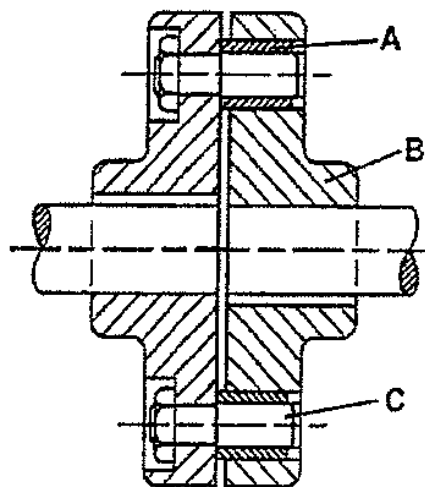

FIGURE 2
1.4 **Parts of Flexible Coupling in Figure 2:**